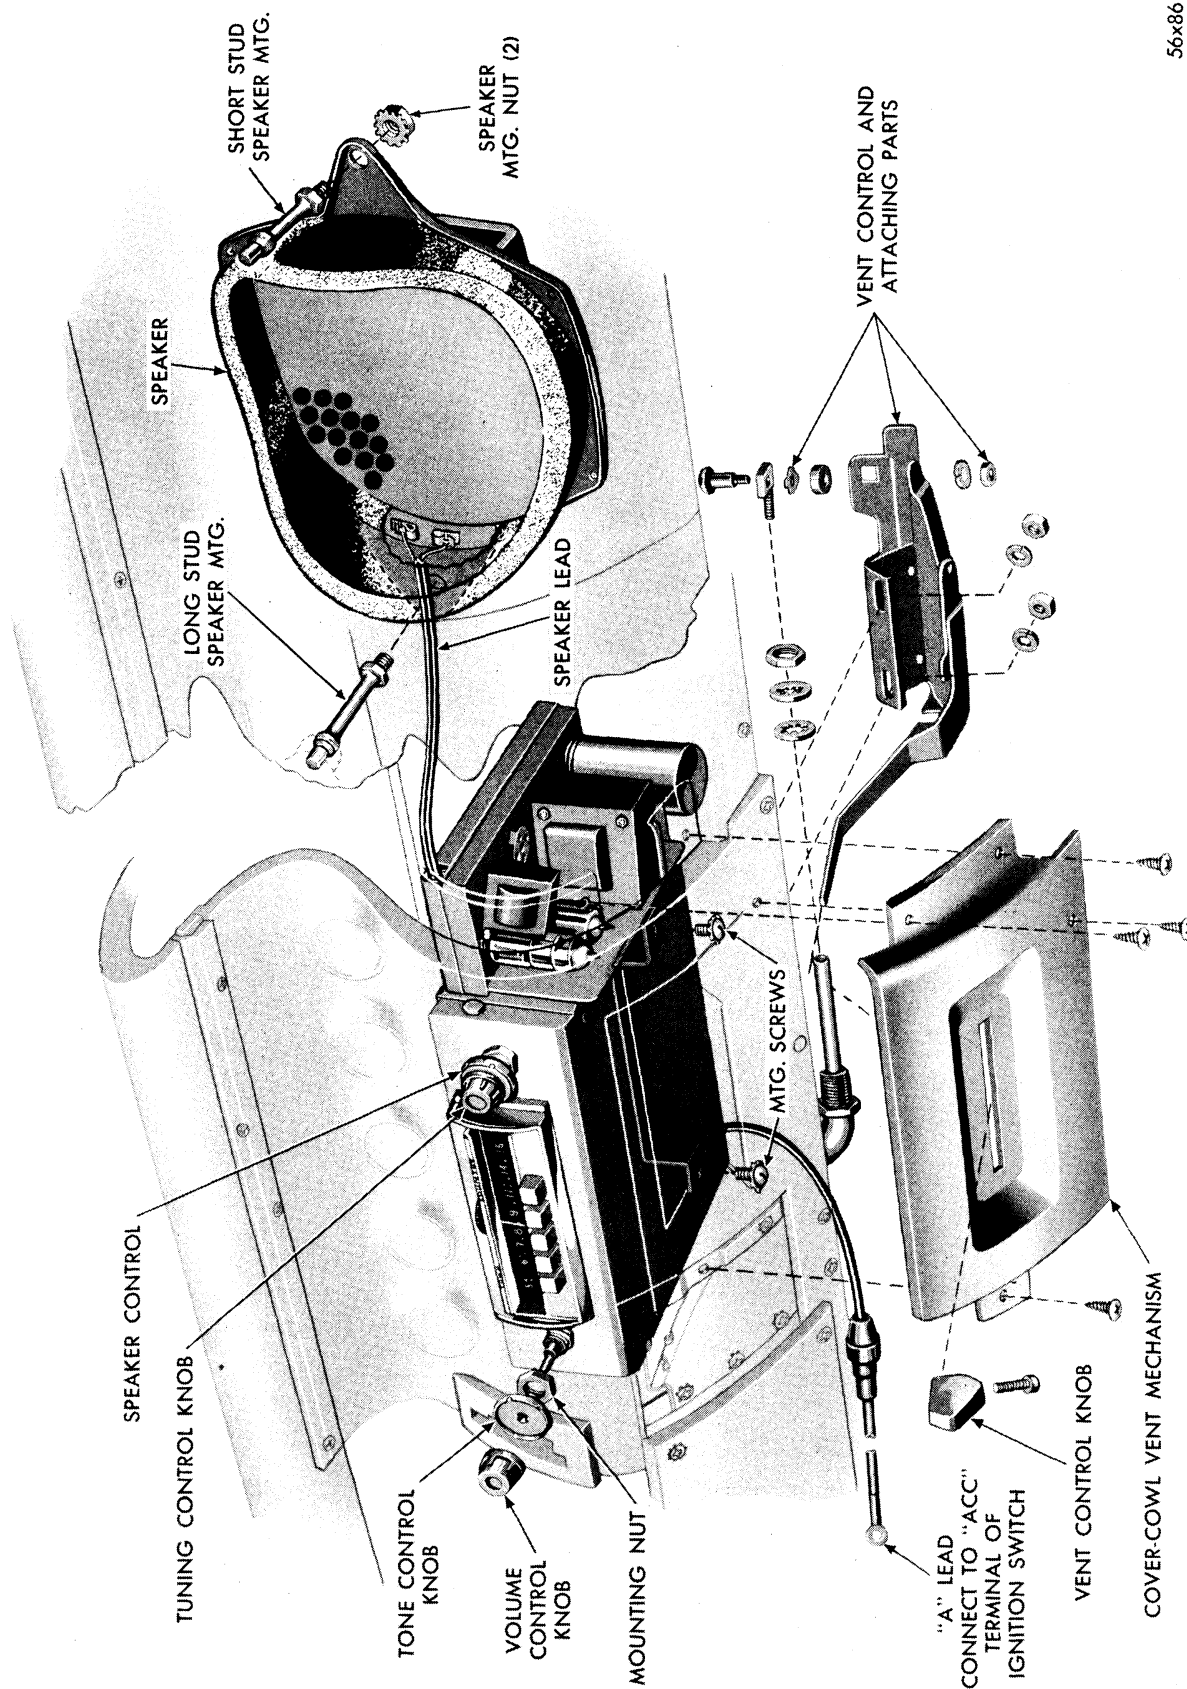

Fig. 3—Radio Installation (Model 912) (Typical of Model 844)
1. REMOVAL AND INSTALLATION — (FIG. 3)